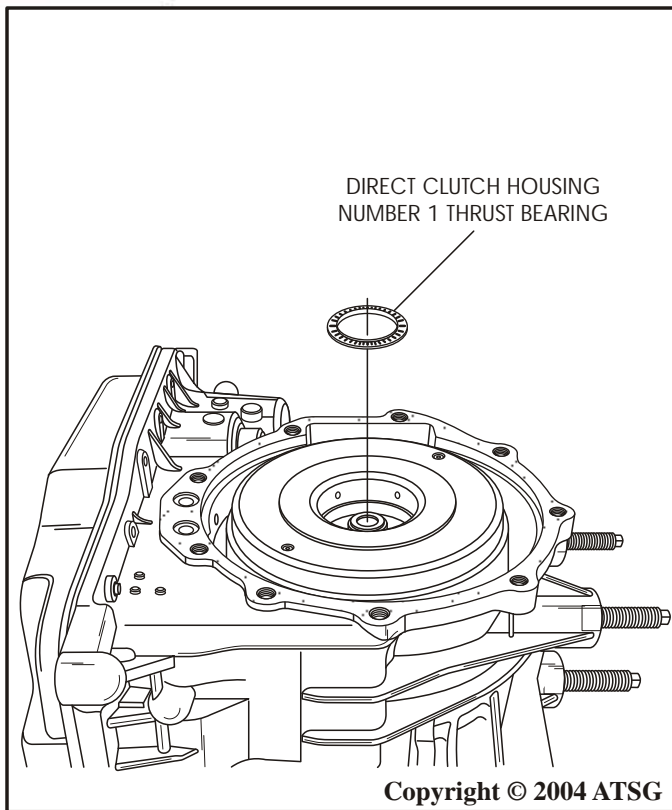

Figure175
48. Install the number 1, direct clutch housing thrust bearing, with the needles facing up, as shown in Figure 175.